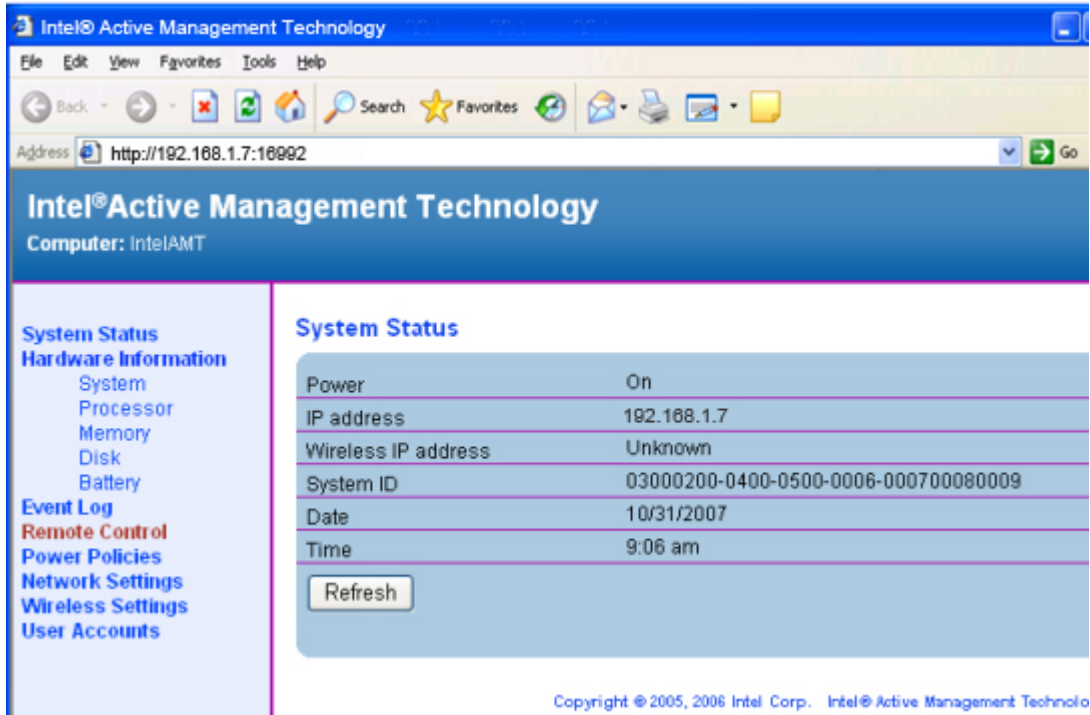

Figure 8-13: Intel® AMT Web Interface
- Step 8:** Press **OK** and the Intel® AMT web interface appears (**Figure 8-13**).